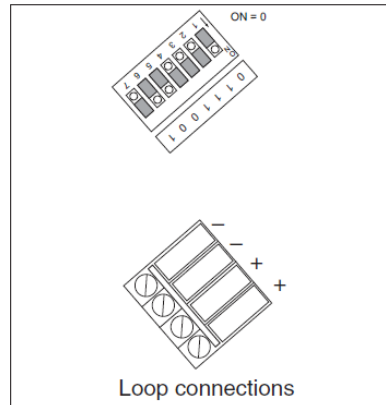

Fig 2 Terminal block connections and address 78 set
2. Run the cables into the backbox and connect them to the terminal blocks as shown in figure 2. The backbox has a terminal for inter connecting cable screen/drain wire (if used). The cable screens (functional earth) should be connected to ground at one point only normally near the CIE in the safe area.